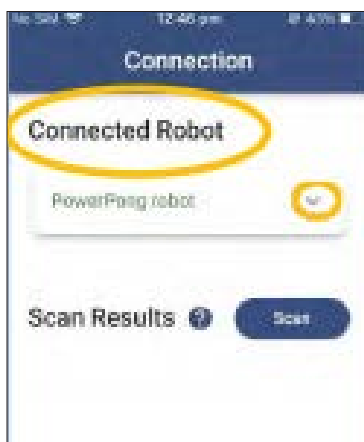
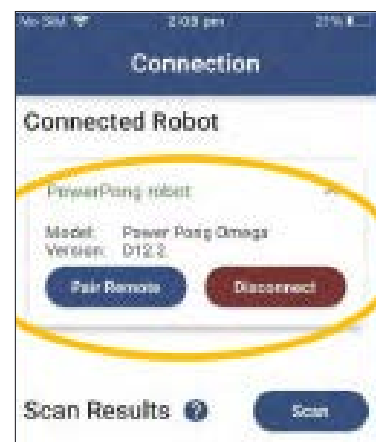

Figure 2-15
Figure 2-16
6. Connect the application to the robot by pressing "Power Pong robot" (Figure 2-14). You will then see a screen confirming Connection as shown in Figure 2-15. Once connected, you can touch the down arrow to the right of the robot name, to see the version of the Power Pong application. (Figure 2-16)